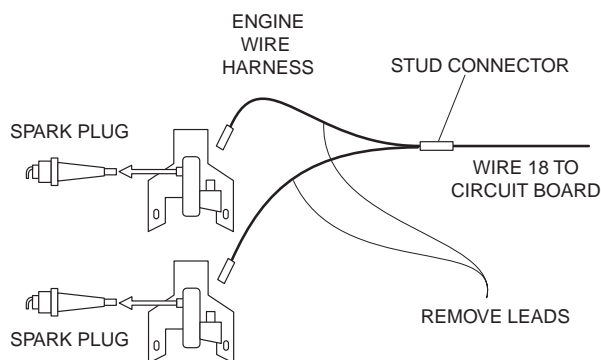

Figure 143. Engine Ground Harness
11. Disconnect the engine wire harness from the ignition magnetos (Figure 143).